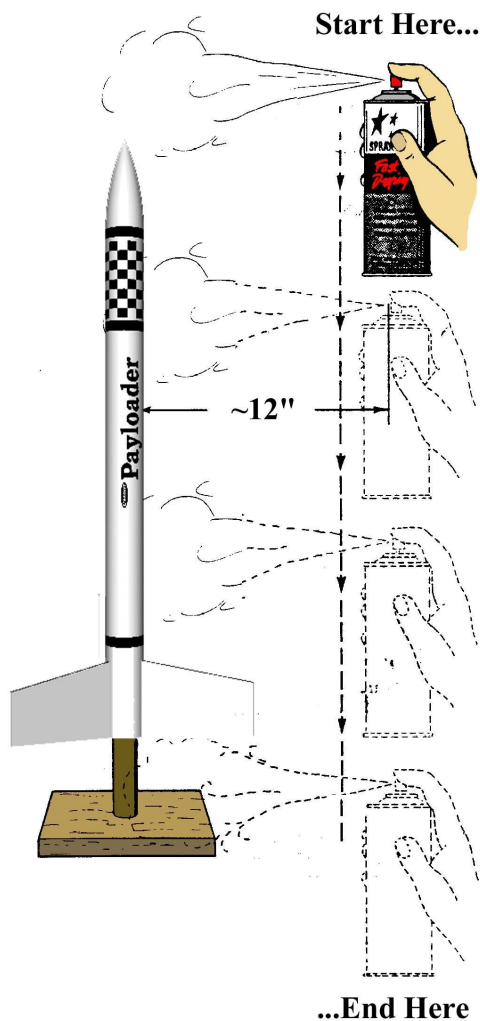

Figure 7
- **Step 17** Use the general illustration in Fig. 7 above to show how to spray the model with the primer, the color, and the final gloss coats. Always spray from top to bottom, and begin the spray ahead of the model. Follow through until the spray is